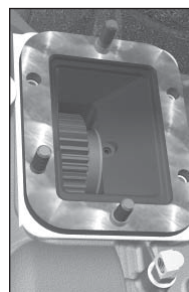

Figure 76
5. Install the geared adapter into the transmission aperture over the studs (**Fig. 76**).